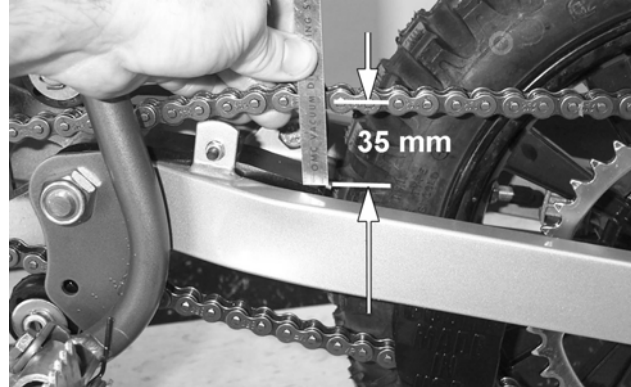

Figure 2
2. For proper adjustment, the chain should have 35 mm (1 3/8") free movement just behind the chain block with no load on the bike (figure 2)